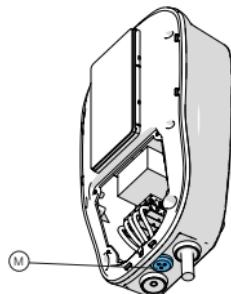

Fig. 3b
- **For Dazebox Home and Share T / S / TK / SK**, shown in Figures 3b, 3c, 3d, 3e, 3f, 3g, 3h, 3i, 4b, 4c, 4d, 4e, 4f, 4g, 4h, 4i, the shielded network cable passes through a hole in the cable entry membrane (M).